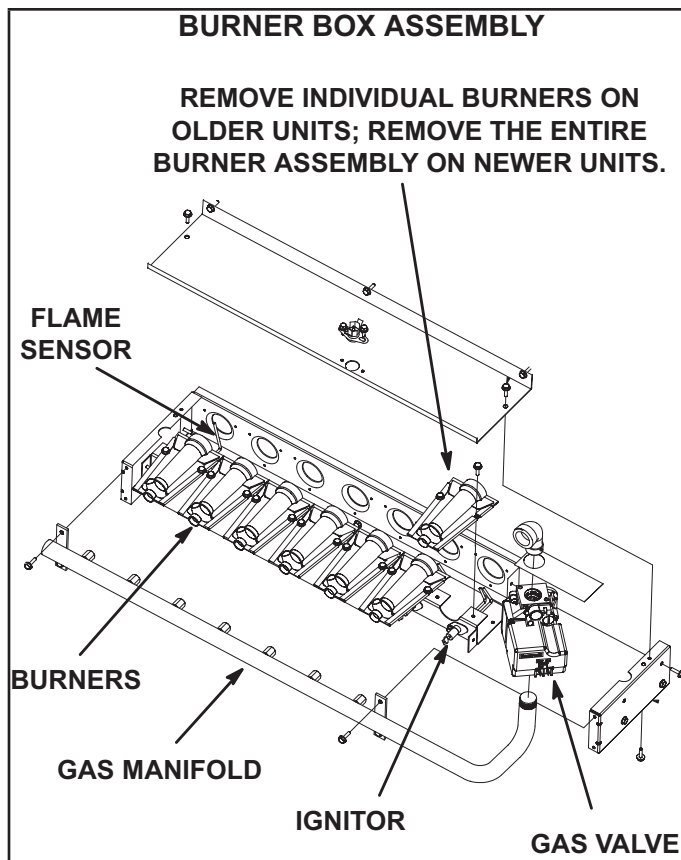

FIGURE 31
- 4 - Remove screws securing burners to burner support and lift the individual burners or the entire burner assembly from the orifices. See FIGURE 31. Clean as necessary.
- 6 - Replace burners and screws securing burner. See FIGURE 31.